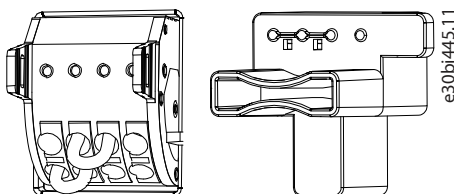

Figure 17: Wired Terminal Block (on the Left) and STO Jumper Clip (on the Right)
- Wire the terminal block as shown in Figure 17, or use the STO jumper clips from the accessory bag, and mount them on X31 and X32. This ensures that both safe inputs are energized with 24 V DC for enabling normal operation.